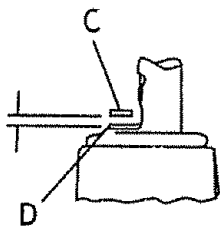

FIG. 11
2. Press top dispenser firmly against the handle tube "G" Valve stem "C" must be above valve lifter "D" (Fig. 11).
Bend the two projections (tabs) at the same time upward until a dime fits snugly between the bottom of the valve stem "C" and the top of the valve lifter "D" (Fig. 11).